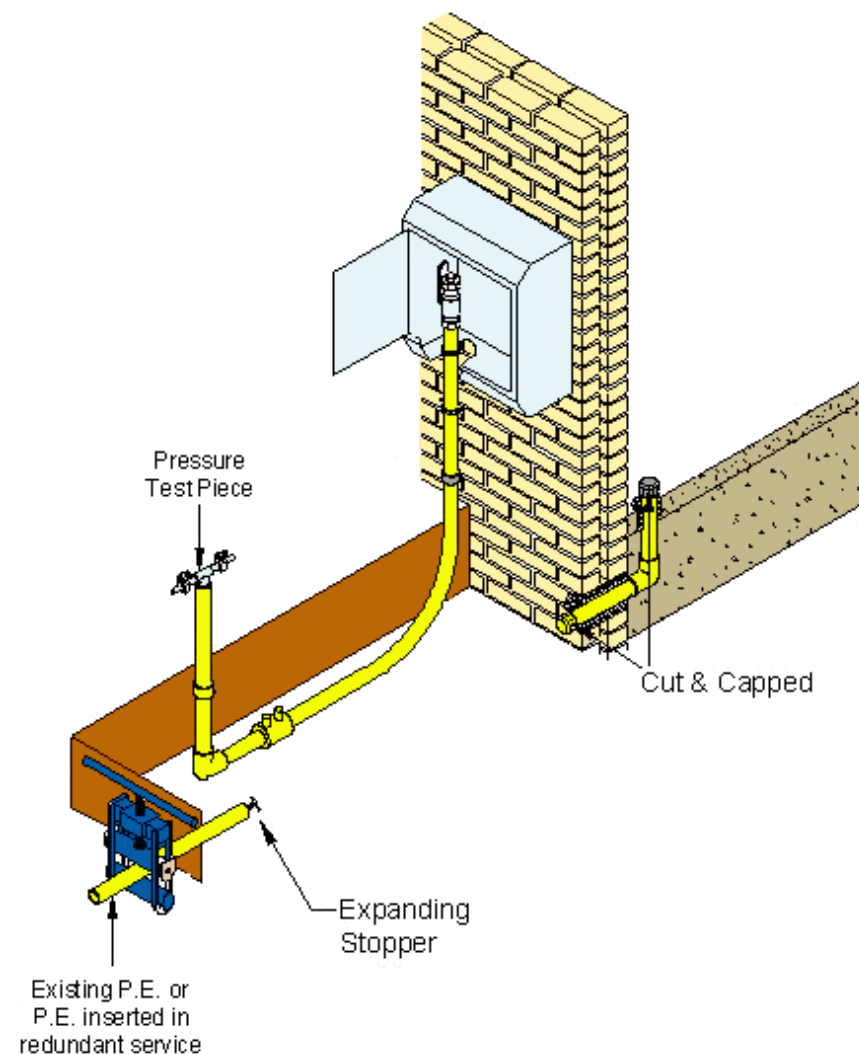

Figure 23 - Typical Service Alteration
7. The service alteration (Figure 23) must be undertaken in accordance with: